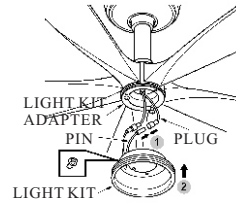
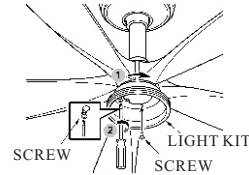

FIG.16
FIG.17
4. Connect the plug between the fan wire with light kit wire and lift the light kit plate upto light kit adapter, have the key key slots over the two loosened screws. Turn the light kit plate until it get the narrow end of key slots. (see fig.16)Tighten screws. (see fig.17)